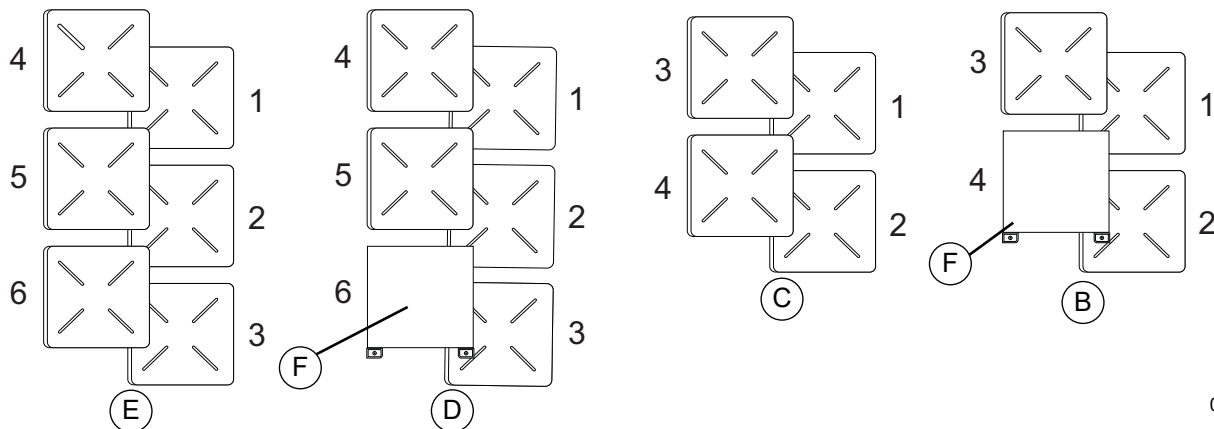

Figure 4-10. Battery Module/Spacer Order of Installation
See **Figure 4-10** for the order of battery module and spacer installation for Generac PWRcell 3 (B), Generac PWRcell 4 (C), Generac PWRcell 5 (D), and Generac PWRcell 6 (E).